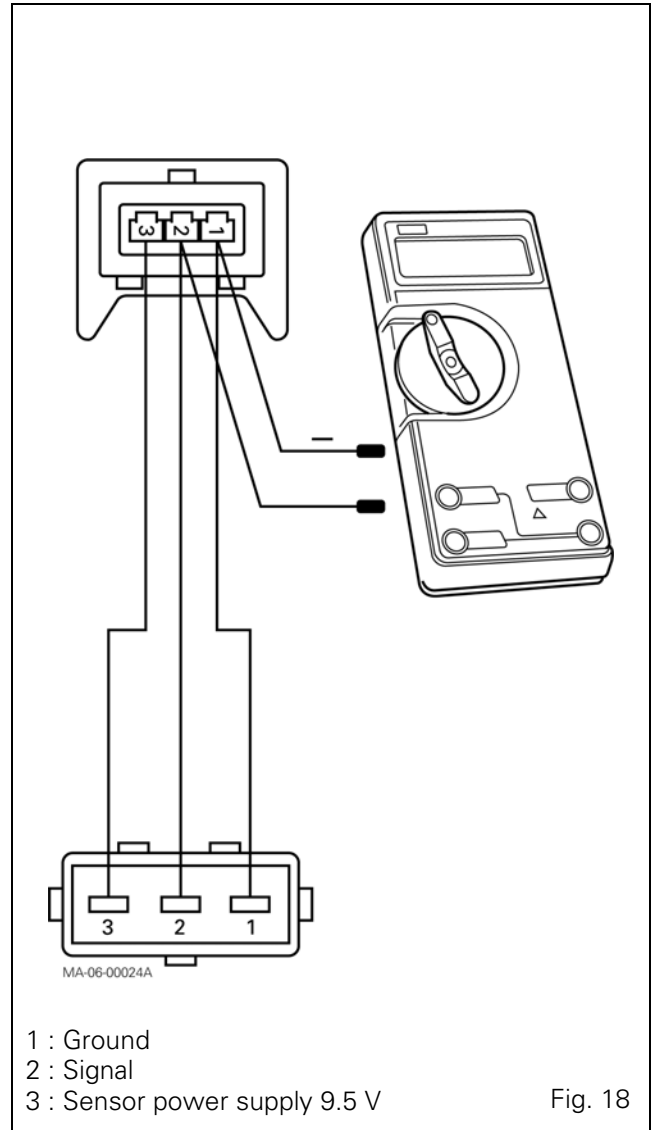

Fig. 18
- 62. Smear the thread of the two lower screws (4) with Loctite 5206 or equivalent. Tighten the screws (4) of the spool valve support cover to a torque of 50 - 70 Nm.
- 66. Smear the thread of the sensor (26) with a sealing compound (Hylomar or equivalent), then screw in the sensor a few turns.
- 69. Screw in the sensor (without forcing it) up against the cam (9). Connect the sensor to the female connector of the test harness (3378077M1) (Fig. 18). Connect the other test harness connector to the tractor harness. Connect terminals 1 and 2 to the MF 3005 multimeter.